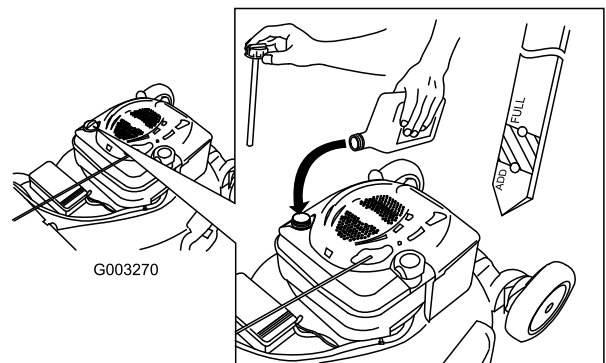

Figure 46
4. **Slowly** pour oil into the oil fill tube until the oil level reaches the Full line on the dipstick (Figure 46). **Do not overfill.** (Max. fill: 20 oz. (0.59 l), type: SAE 30 detergent oil with an API service classification of SF, SG, SH, SJ, SL, or higher.)